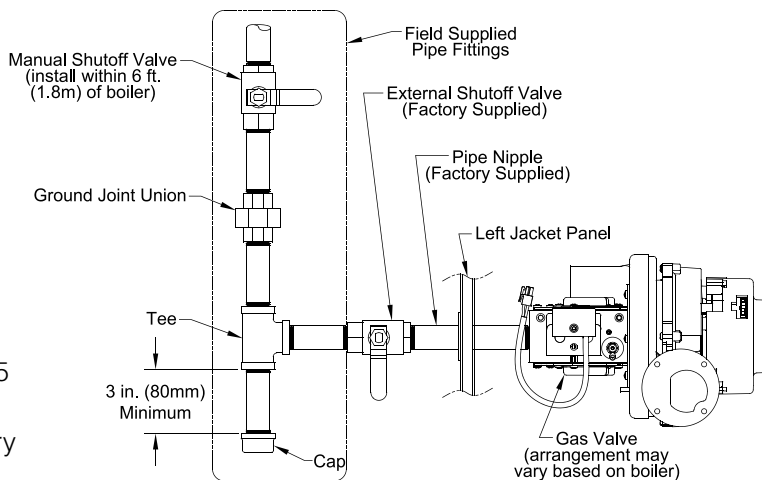

Figure 7-6: Recommended Gas Piping
- Install sediment trap, ground-joint union and manual shut-off valve upstream of mounted factory supplied manual shut-off valve. See Figure 7-6.
2. Individual module (boiler) recommended gas piping detail - see Figure 7-6.